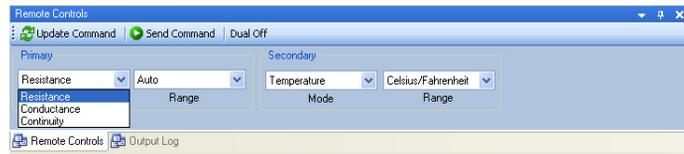

Figure 21 Remote Controls
- 2 Click **Update Command**, to update the list of commands available for the rotary switch position selected. The list of commands can be viewed through the drop-down combo box menu (Figure 21).